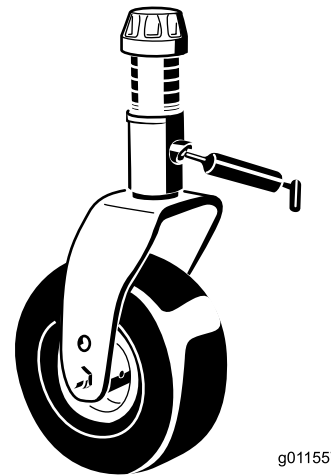

Figure 64
- 2 caster-fork-shaft bushings (Figure 64)